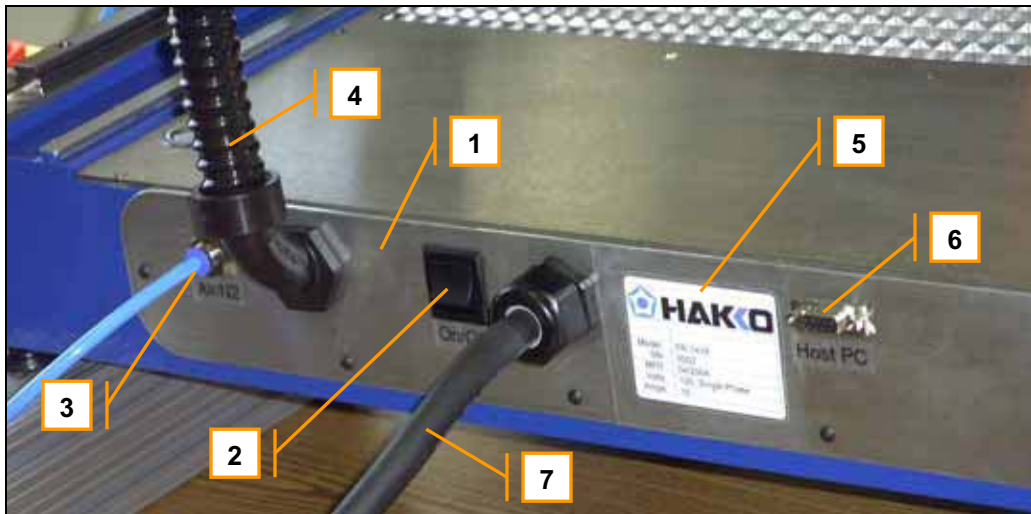

Figure 20: Rear Panel
Connect air or nitrogen to the rear panel fitting using ¼ inch plastic tubing. (See Fig. 20 on page 11) The supply gas must be clean, dry and regulated to 60PSI. The supply should be capable of delivering 5 CFM minimum continuous supply at 80 PSI. Poor filtration or wet air lines will degrade heater and pneumatic component performance.
2. Turn the power switch to the 1 (On) position. (Fig. 20)